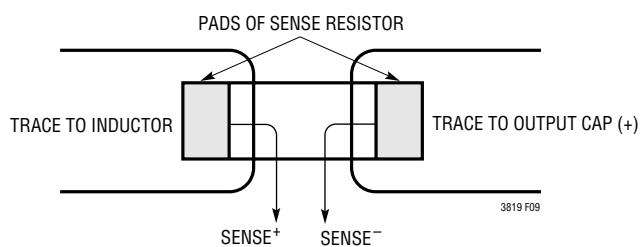

Figure 8. Proper Current Sense Connections
3) Are the  $SENSE^-$  and  $SENSE^+$  leads routed together with minimum PC trace spacing? The filter capacitors between  $SENSE^+$  and  $SENSE^-$  pin pairs should be as close as possible to the LTC3819. Ensure accurate current sensing with Kelvin connections at the current sense resistor. See Figure 8.